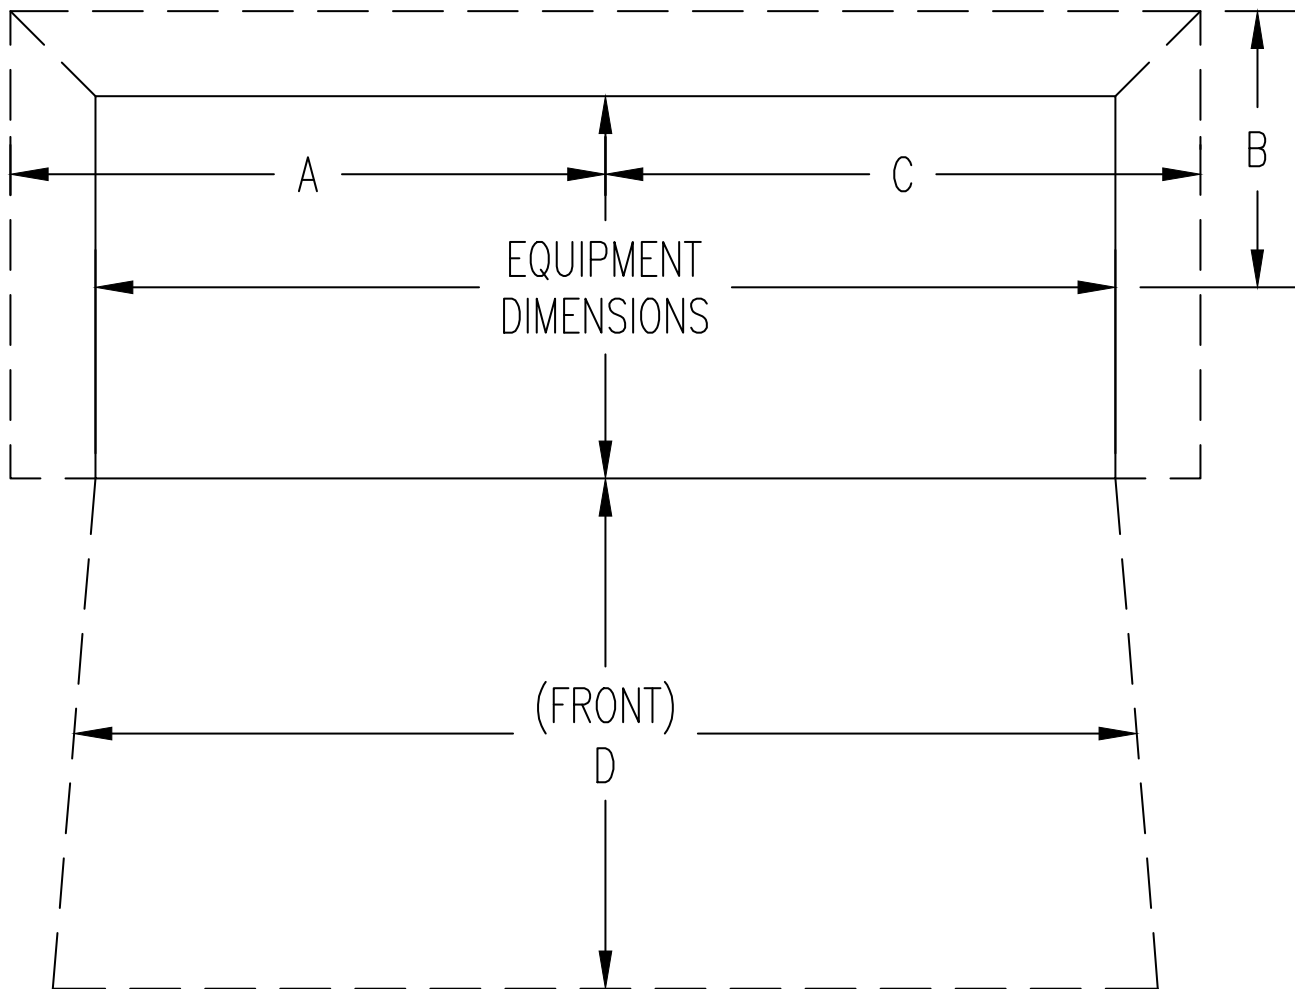

**FIGURE 10.**
- 4.1.7 Conduit stubs for transformers should be oriented according to transformer pad opening as shown in Figure 10.